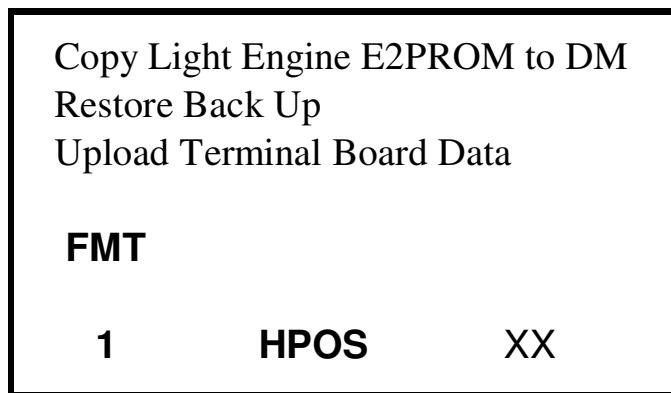

Figure 4-10
- 3) Three added choices appear on screen, refer to *Figure 4-10*.